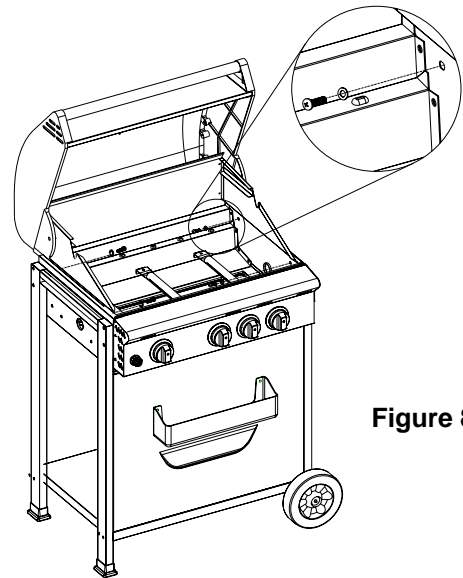

Figure 8
2. Attach grill head to the cart by using (4)  $\frac{1}{4}$ x $\frac{3}{5}$ " Phillips head screws with (4)  $\frac{1}{4}$ " flat washers. (Fig.8)